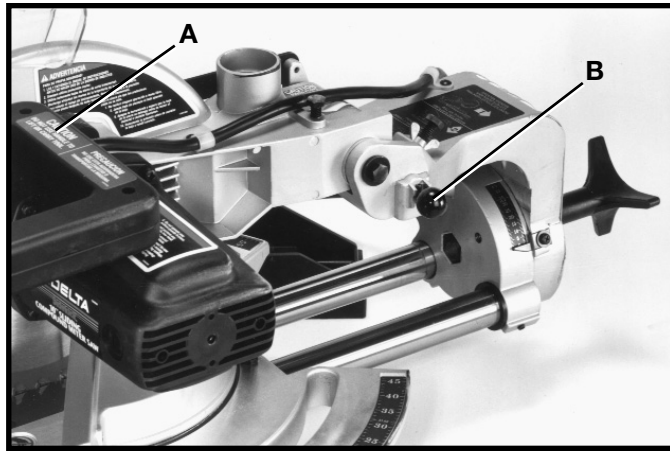
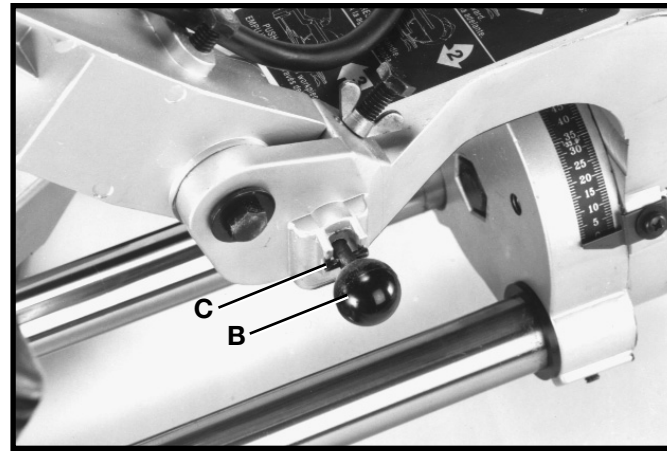

Fig. 17
Fig. 18
1. While holding the cuttinghead (A) Fig. 17, down, pull out and rotate cuttinghead lock knob (B) 90 degrees until pin (C) Fig. 18, is in the horizontal position as shown. The cuttinghead can then be raised.